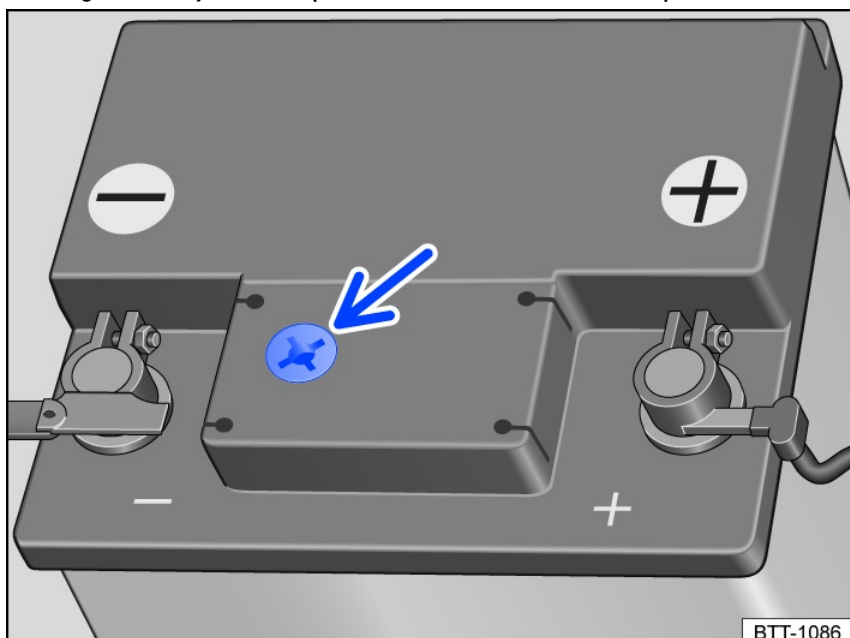

Fig. 146 Window on the top of the 12 V vehicle battery (general example).
2. Make sure there is enough light to clearly see the color indicator in the circular window on the top of the 12 V vehicle battery (arrow) *fig. 146*. Never use open flames or smoldering objects to provide light.